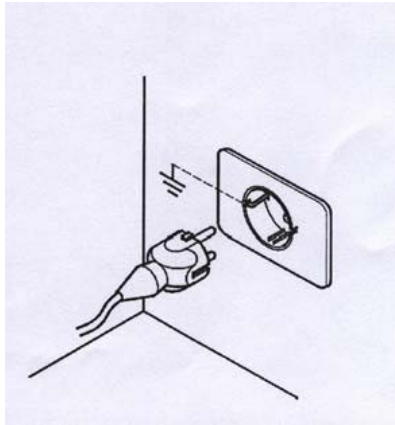

Figure 12.
- Plug the stove into an outlet that is grounded. Figure 12,